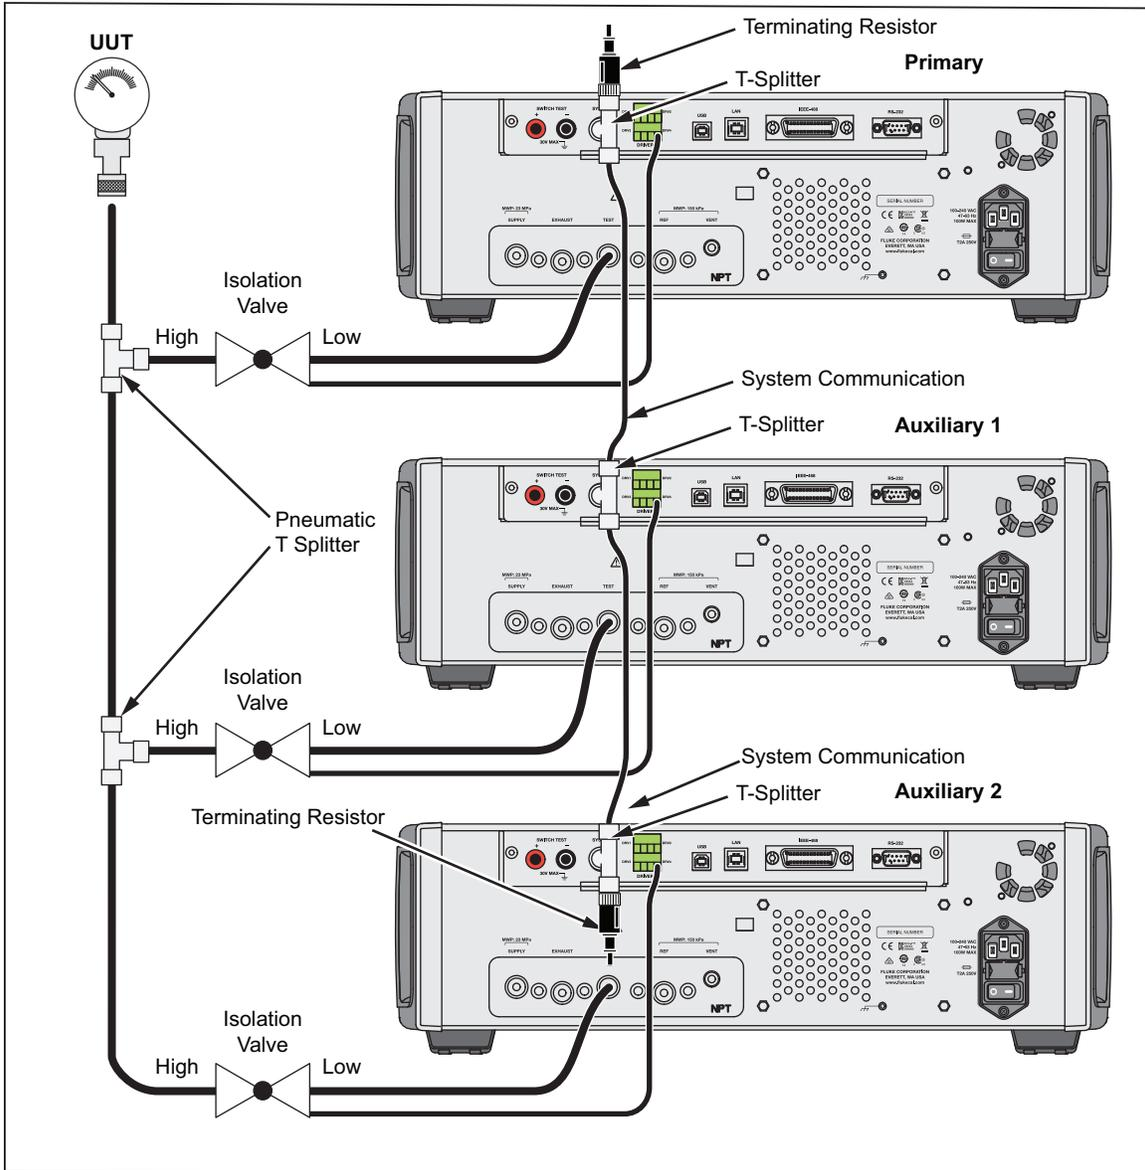

Figure 22. System Stacking Connections
- b. Connect the pressure line to the port labeled “HIGH” to the UUT. Use splitters where necessary to connect to the UUT. See Figure 22.